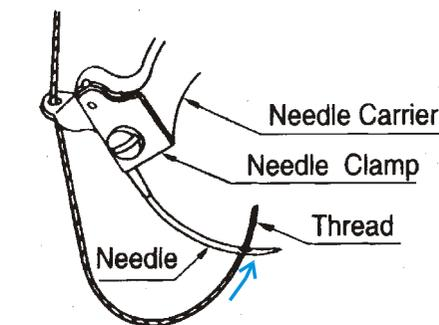

Fig.11
C. For correct needle threading of the machine, carefully follow the path of thread as shown in Fig.9 above and Fig 11 on the next page.
Now put thread through needle eye from below as shown in Fig.11.
Thread the needle from below in an upward direction as in Fig.11.